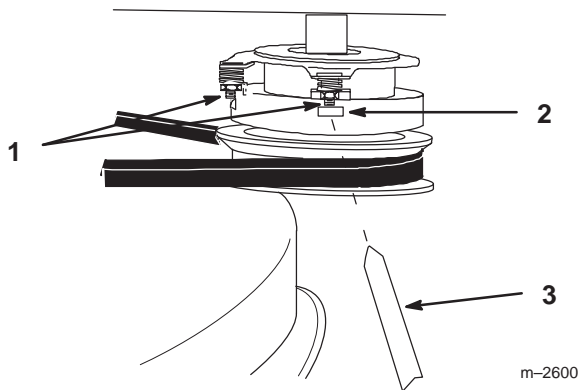

Figure 44
2. Check the adjustment by inserting a feeler gauge through slots next to each of the studs (Fig. 44) to ensure that the plates are parallel.
3. To adjust the clutch, tighten or loosen the locknuts on the flange studs as necessary (Fig. 44).